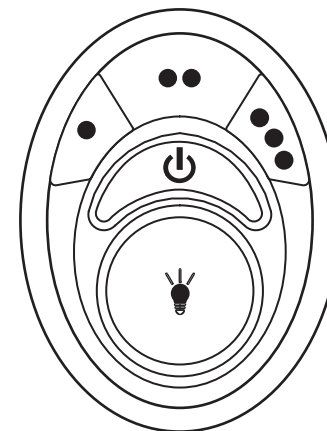

Fig. 20
C. Button (If equipped) = the "💡" button turns the light ON or OFF and also controls the brightness setting. (Fig. 20)